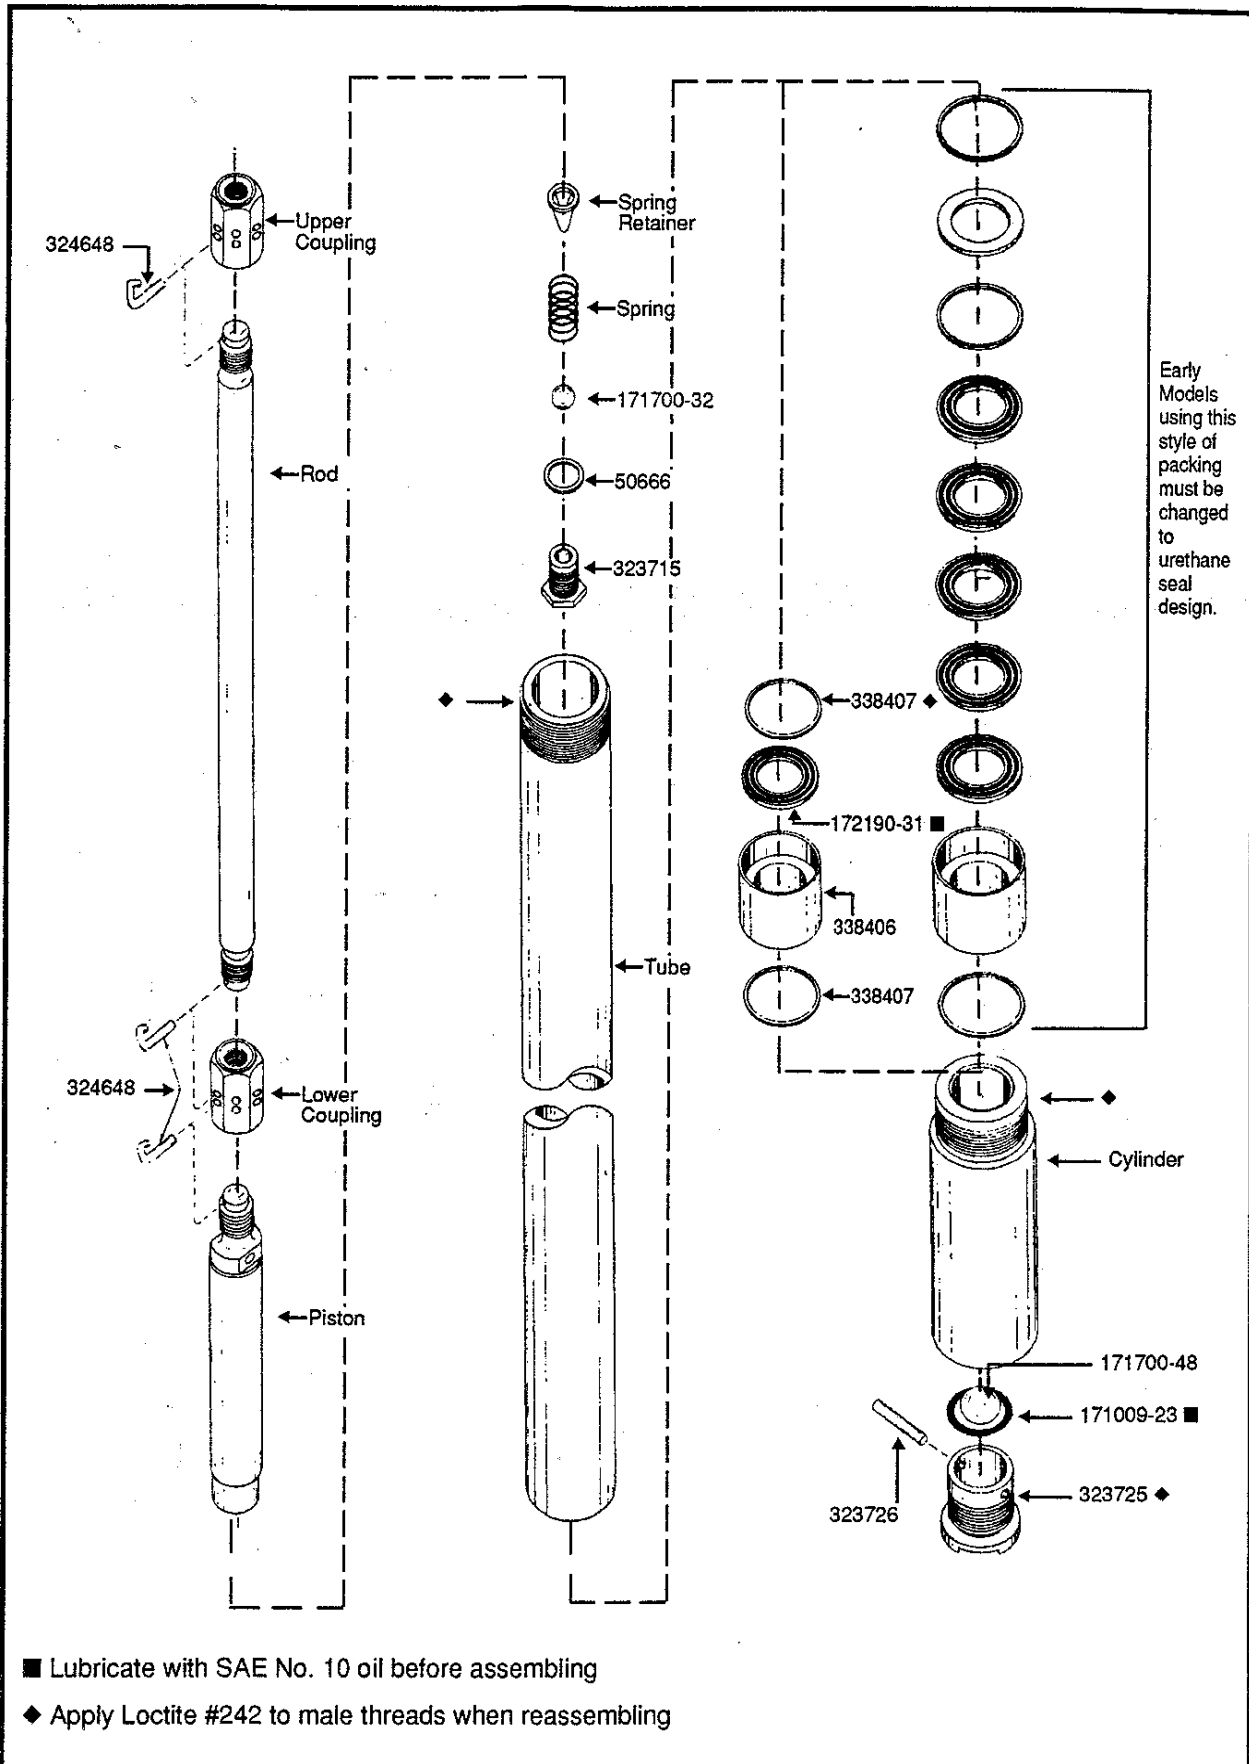

Figure 3: Components of Pump-Tube Assembly
(Figure 3)
9. Reassemble by reversing steps 2 thru 7. Follow lubrication and loctite notes in Figure 3.